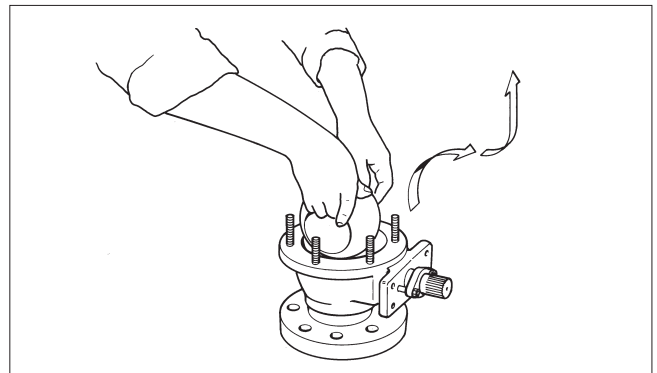

Fig. 18 Removing the ball from the body
- Remove the ball (3) from the body (1) by gripping the edges of the flow bore (small sizes) or by passing a rope through the bore (large sizes). To detach the ball from the spline driver (4), turn the ball to the closed position before lifting. Make sure that the ball is not damaged and put it onto a soft surface (see Figure 18).